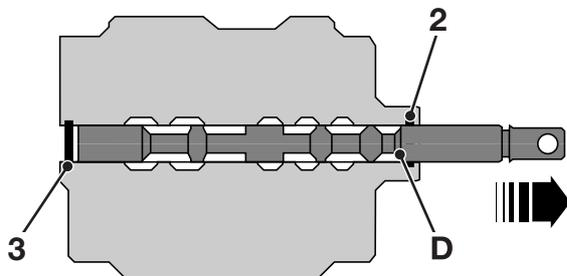

Fig 15. Position B
- 2 → Fig 15. (□ L-292). Move the spool to position B and then install the seal 3. It is important to note that the spool must not be moved beyond position B, otherwise the edge of the spool (face D) may damage the seal fitted first (item 2).